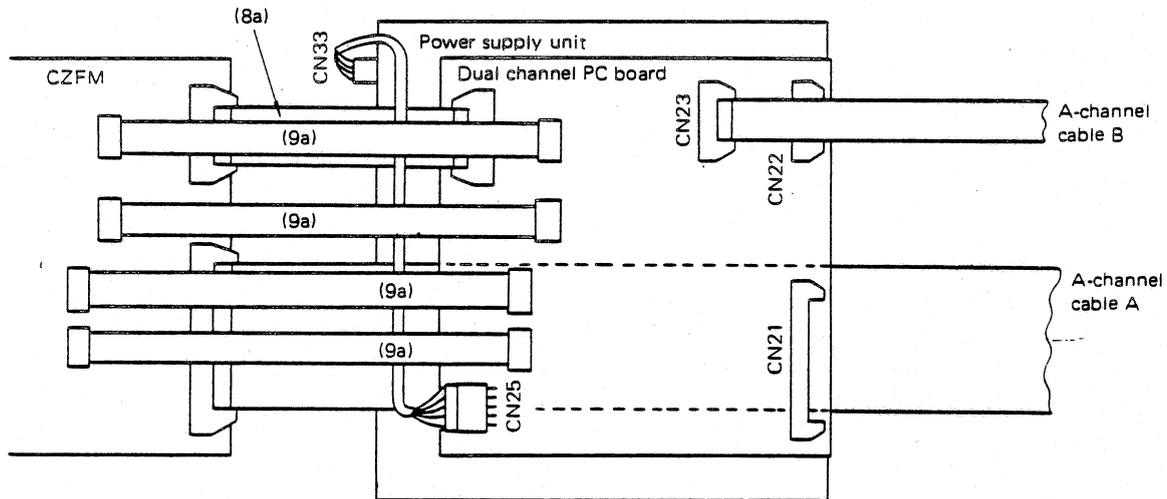

Figure 3-5-16 Dual Channel Cabling
- ⑦ Connect CN25 on the PC board and CN33 on the power supply unit with the connection cable (B660-0625-T329A). (See Figure 3-5-16.)
- ⑧ Connect interface cables (8a and 9a) between the drive unit (CZFM) and the dual channel PC board.
- ⑨ Connect the A-channel cable B to the PC board, and pull the cable out behind the power supply unit.
- ⑩ Remove the dual channel PC board from the rails and connect the A-channel cable A to the drive unit (CZFM), and pull the cable out under the dual channel PC board and behind the power supply unit.
- ⑪ Connect B-channel cables A and B to the back of the PC board (CN21 and CN22) and pull them out behind the power supply unit.
- ② Connect the drive unit (KGFM) to the PC board via the cable as shown in Figure 3-5-16.
- ③ Insert cover between frame and the equipment from the front of the equipment, and fix cover.
- ④ Fix the frame with PCB with two screws (SBD M3 x 5).
- ⑤ Connect A-channel cable B (CN23).
- ⑥ Attach cover 3b in the frame and fix with screw (SBD M4 x 6).
- ⑦ Connect all other interface cable to channels A and B.
- ⑧ When mounting the optional fan unit to the drive unit, fix the interface cable with the attached cable clamp.